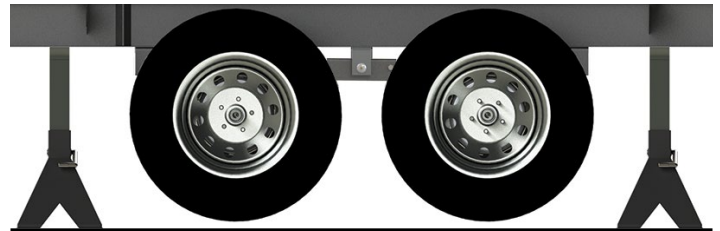

Fig.2
4. Using the properly-rated floor jacks, lift the trailer according to the manufacturer's recommendation until the wheels are no longer in contact with the ground (**Fig.2**).